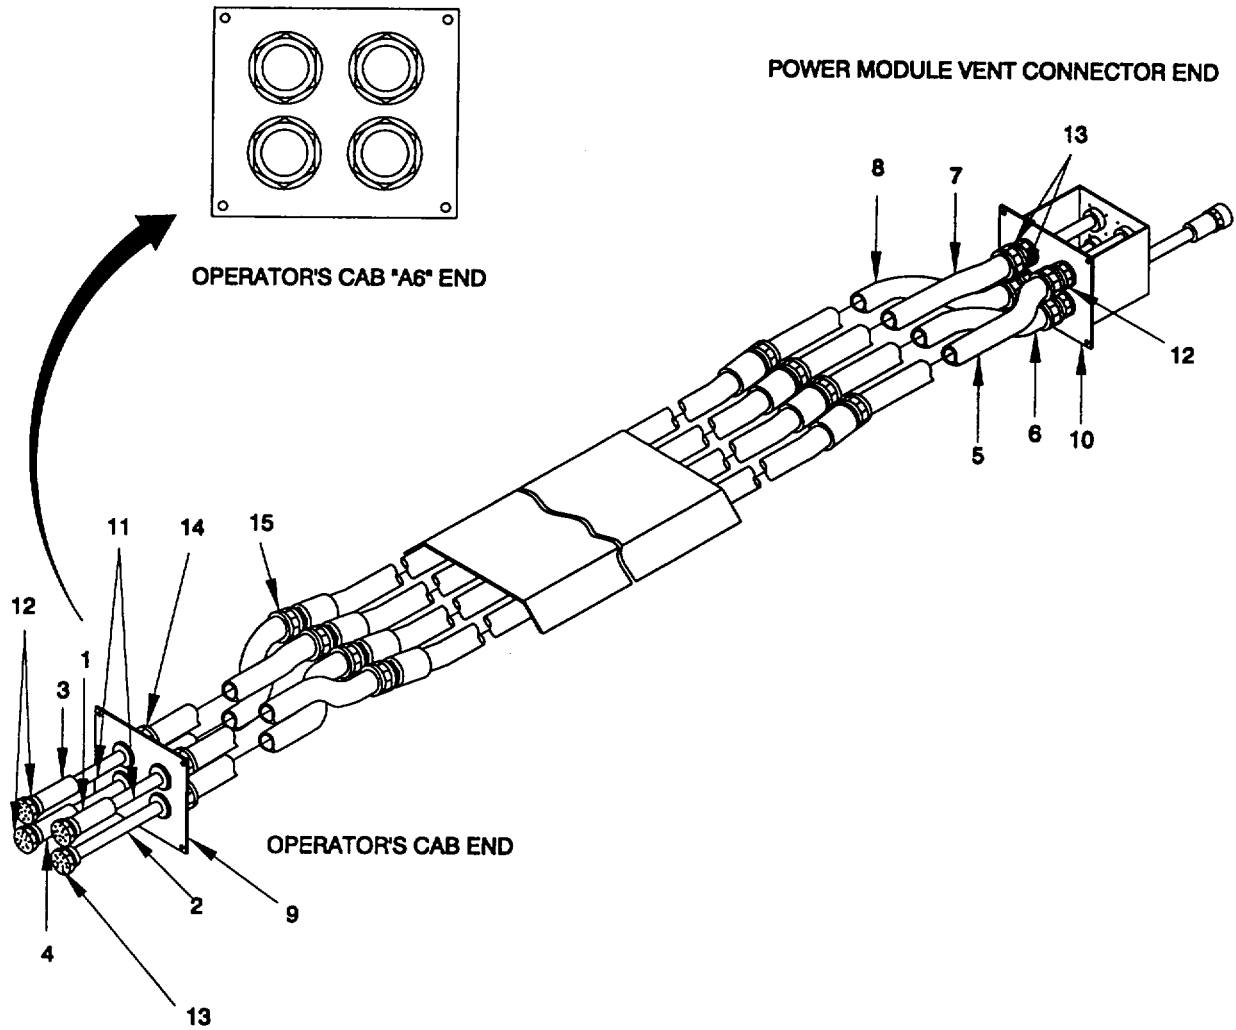

Figure 4-6. Module Interconnect Assembly, Remove/Install.
- a. *Remove.* (figure 4-6).
- (1) Disconnect and tag OUT OF SERVICE all power to the module electrical interconnect assembly.
- (2) Unscrew the connectors (1), (2), (3), (4) from the Operator's Cab Assembly.
- (3) Unscrew the connectors (5), (6), (7) and (8) from the power module vent connector end of the cable, opposite the Operator's Cab; access through the intake plenum assembly. Remove the conduit entry plate (9) from the Operator's Cab bulkhead and the conduit entry plate (10) from the intake plenum.
- (4) Disconnect cables (11) containing contact pins (13) from contact sockets (12).
- (5) Remove conduit to panel fitting (14) and conduit to pipe (15) fitting.
- b. *Inspect.* (figure 4-6)
- (1) Inspect for broken or bent pins (13). Replace as needed. Use special tools to replace pins.
- (2) Inspect for broken contact sockets (12) or corrosion on sockets.
- c. *Install.* (figure 4-6)
- (1) Replace conduit to pipe fitting (15) and conduit to panel fitting (14).
- (2) Replace missing pins (13) and reconnect all cables containing contact pins (11) into sockets (12).
- (3) Replace the conduit entry plate (9) in the Operator's Cab and the conduit entry plate (10) from the
- a. Remove. (figure 4-6)
- (1) Remove hex head capscrews (1) and hex nut (2) securing 55 ton shackle (3). Remove 55 ton shackle (3) and bridle sling (7).
- (2) Remove two hex head capscrews (4) and two hex nuts (5) securing two 35 ton shackles (6) to bridle sling (7). Remove 35 ton shackles (6).
- b. Inspect. (figure 4-6)
- (1) Vertical design load total = 50 tons
- (2) Tension design load per sling = 35 tons
- (3) Proof load per sling = 81 tons
- (4) Minimum UTS per sling = 122 tons
e. Install. (figure 4-6)**NOTE**